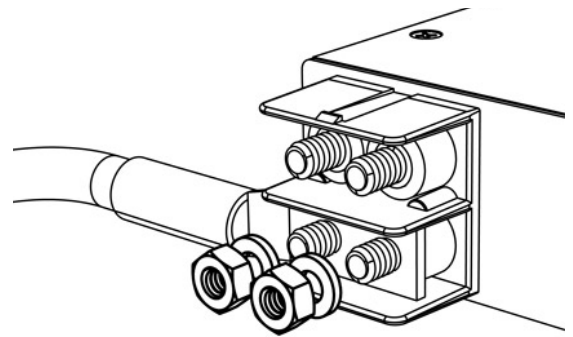

Figure 12. Return Input Landing
- Step 2.** Install the return cables/lugs to the return input studs located on the rear of the panel (see Figure 12). Ensure all that hardware is tightened.